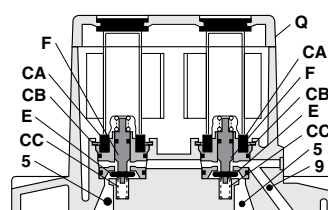

Figure 10 – Cross Section of Pilot Assembly
1. Remove pilot cover Q (Figure 10).